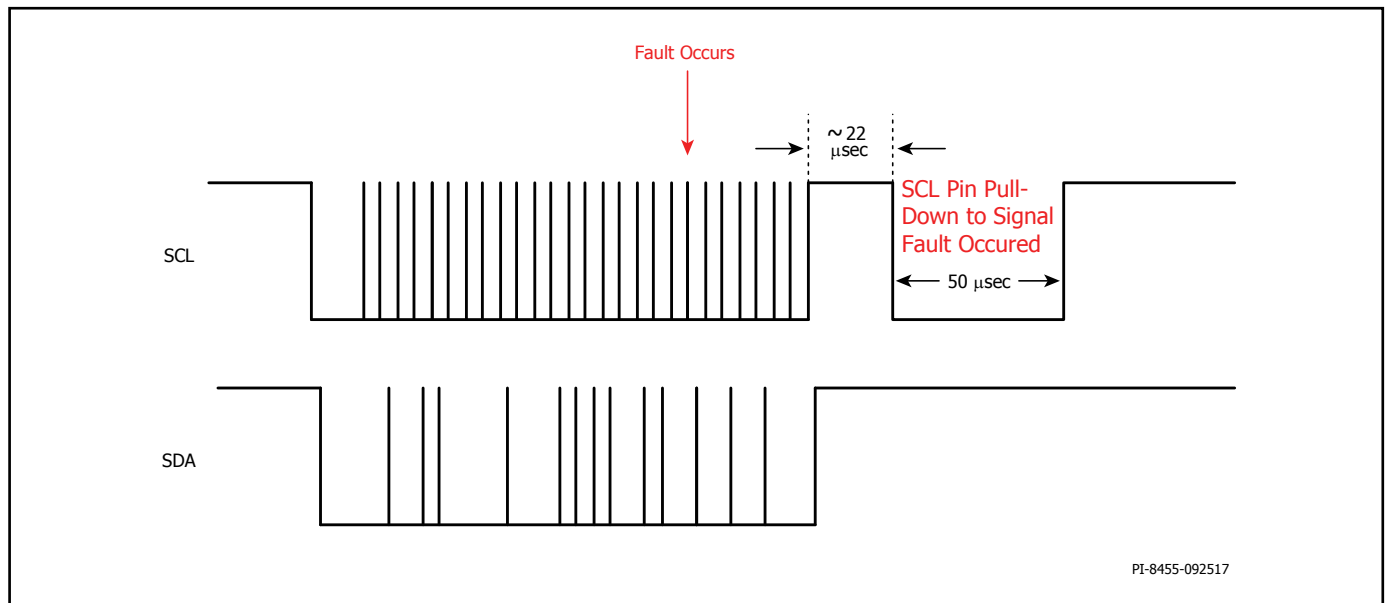

Figure 20. Interrupt Mask During Active I²C Transaction.
2. When the SCL pin is busy (active I²C transaction) (see Figure 20), the fault interrupt will wait for the I²C transaction to be completed, wait ~22 μ sec and then pull down the SCL line for 50 μ sec (minimum) then releases it back to HI State.